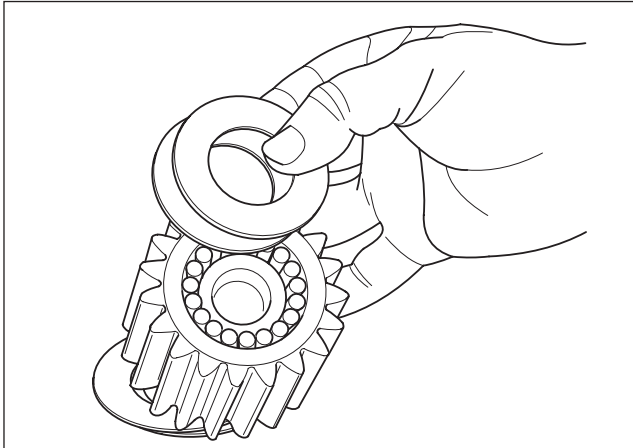

Fig. 2.22
6. Replace damaged parts. Grease the rollers of the planets gears and assemble them in the gears, with the spacer sleeve. Fig. 2.22